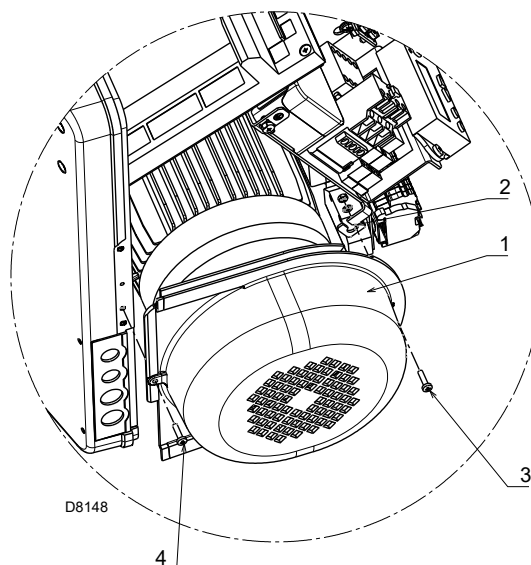

Fig. 21
- secure the motor protection 1)(Fig. 21), supplied as equipment, on the bracket 2), using the screws 3) with nut and washer.